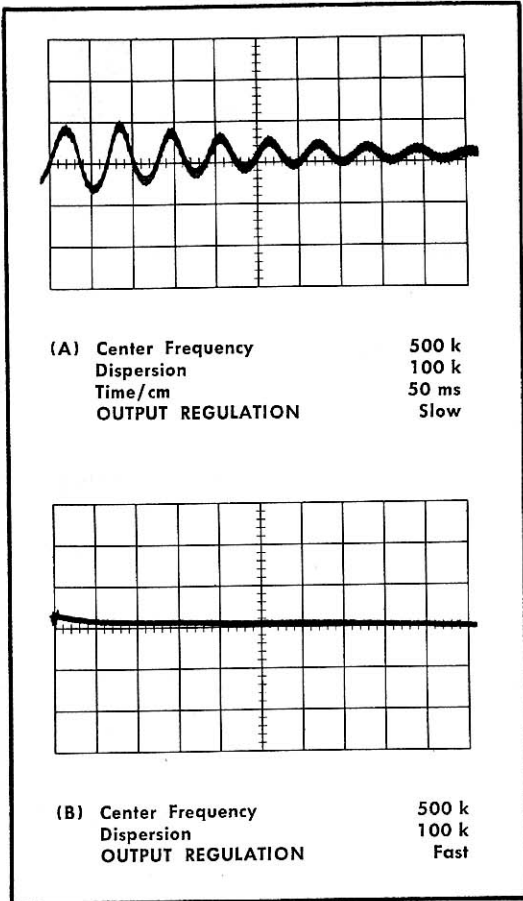

Fig. 2-2. Output regulator operation, high frequency, wide dispersion and fast sweep rate.
2. Switch the OUTPUT REGULATION from FAST to SLOW position. Note the time delay before the slow time constant of the regulator recovers. Note also the damped oscillation of the regulator circuit as it attempts to recover output regulation after the swept frequency has gone through 0 Hz. - See Fig. 2-2.